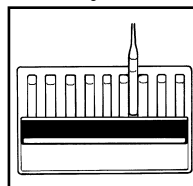

Figure 3
5. Obtain a test result by placing the ampoule between the color standards until the best color match is found (fig. 3).